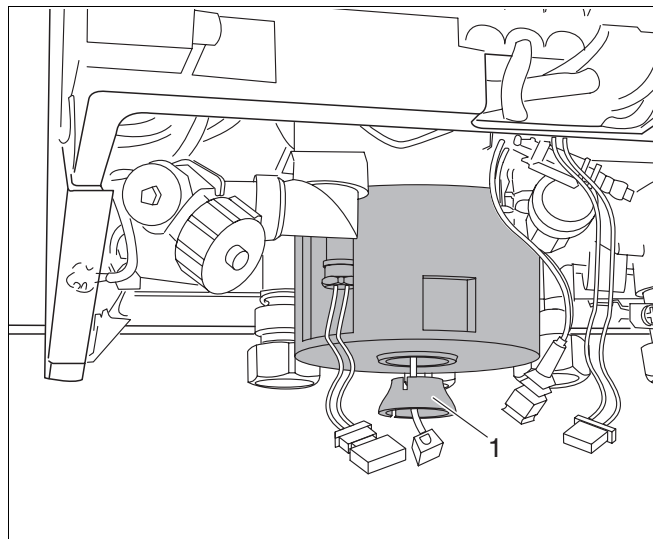

Fig. 76 Changing the hot water / boiler sensor
- Remove insulation mounting (fig. 76, item 1) and detach insulation.